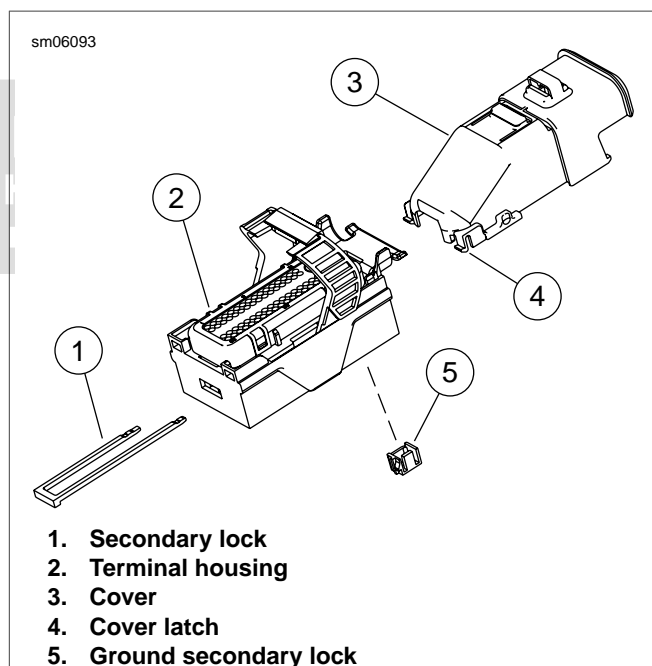

Figure A-26. Delphi 73-Terminal ECM Connector
2. See Figure A-26. Release latches (4) that retain cover (3) to housing (2) and remove cover.
1. See Figure A-26. Remove secondary lock (1).
See Figure A-26. Secondary lock has one short leg and one long leg. Install as shown.
6. See Figure A-26. Install ground secondary lock (5) and install secondary lock (1) as shown.